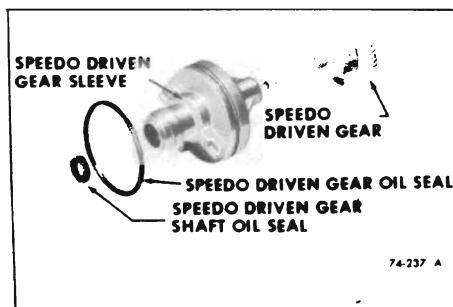

Figure 74-237
1. Remove speedometer driven gear. See Figure 74-237.
2. Install speedometer driven gear oil seal. See Figure 74-237.